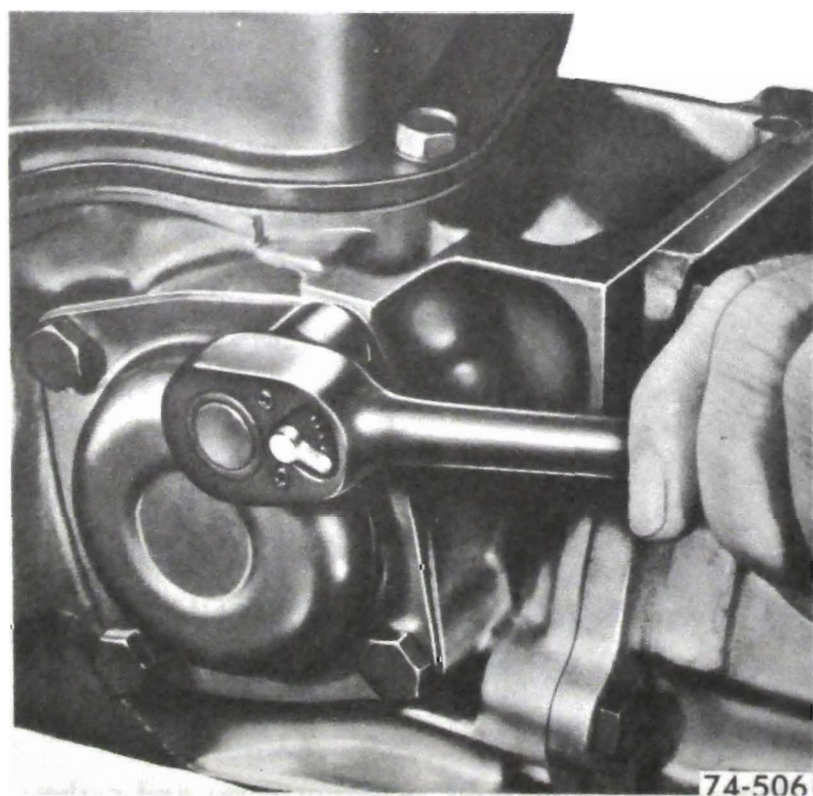

Figure 76-43
1. Remove attaching bolts, governor cover and gasket. See Figure 76-43.